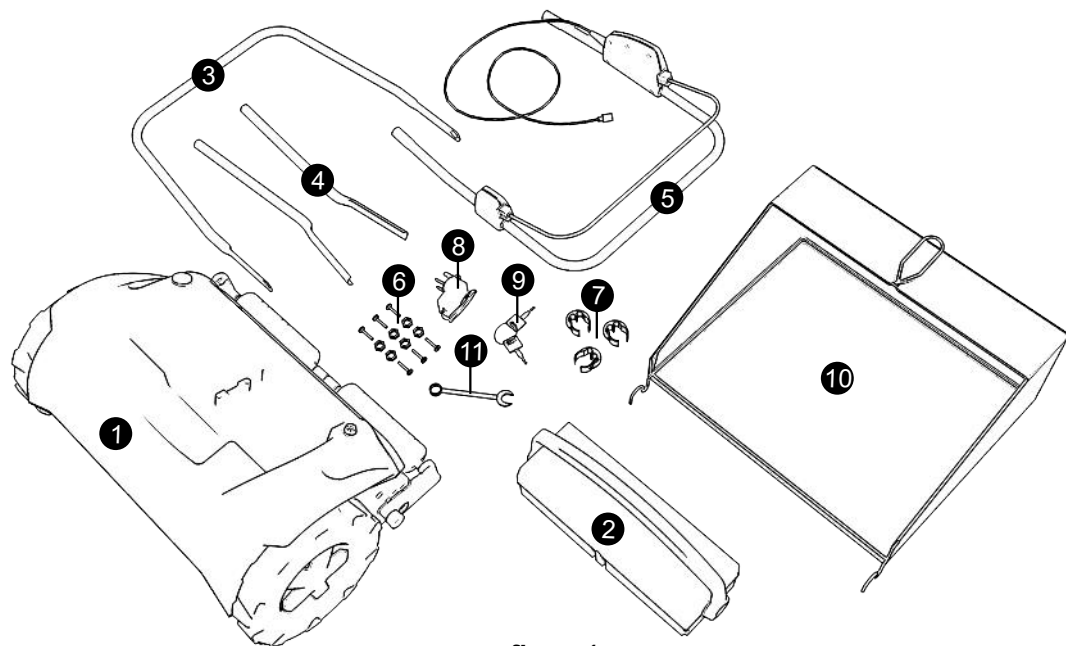

figure1
1. Unpack and remove the whole unit from its packaging, and ensure all the parts are present. (See figure 1)